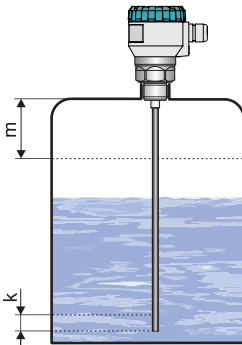

Fig. 3: Level meter dead zone with rod electrode
- In connection with the measurement principle, it is not possible to evaluate electromagnetic waves deflected in the area directly below the level meter and also at the end of the electrode (see fig. 3 and 4). These zones determine either the minimum distance between the level meter and the highest possible level (parameter "m"), or the minimum distance at the end of the electrode (parameter "k"). **The level meter must be installed so that when the tank is filled to the maximum and minimum possible level, the surface level is not in the dead zones.**